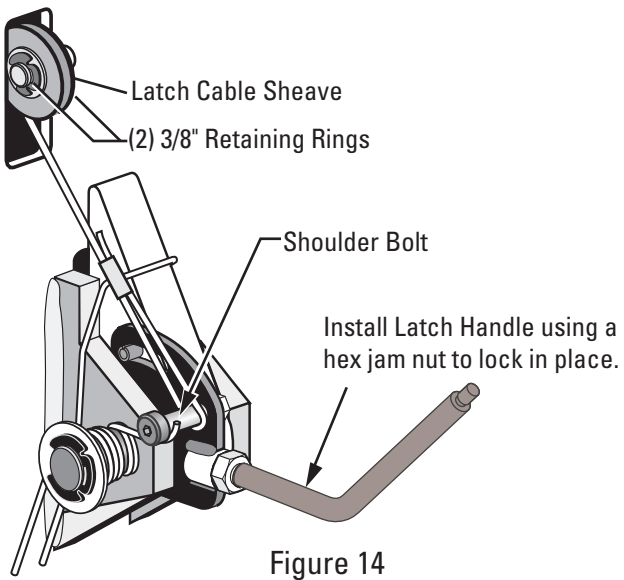
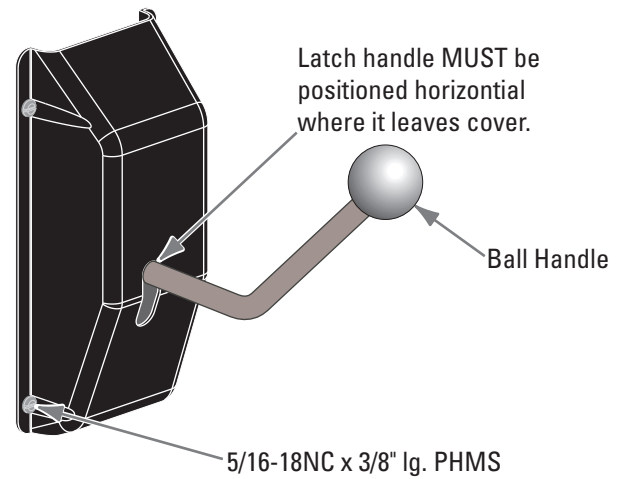

Figure 14
Figure 17
- A) Install latch cable sheave and retaining rings in upper slot of power unit column as shown, Fig. 14.
- B) Slip loop end of cable over end of shoulder screw on right side latch control plate, Fig. 14.
- C) Feed the other end of the cable through the latch cable sheave slot making sure that the cable is running under the bottom side of the latch cable sheave and inside the right column, Fig. 14.
- J) At this point you **MUST** install the latch handle, jam nut, and right column latch cover Fig. 14 & Fig. 17. Install latch handle ball, Fig. 17.
- D. To prevent the carriages from rubbing the hoses, pull the hoses upward taking out any slack between the cylinder fitting port and the cylinder mount. Secure the hoses to the mainside cylinder with a wire tie around the tee and the cylinder. The tee should be positioned to aim directly out through the grommet, figure 14. Secure the hose to the offside cylinder at approximately the same height with a wire tie.